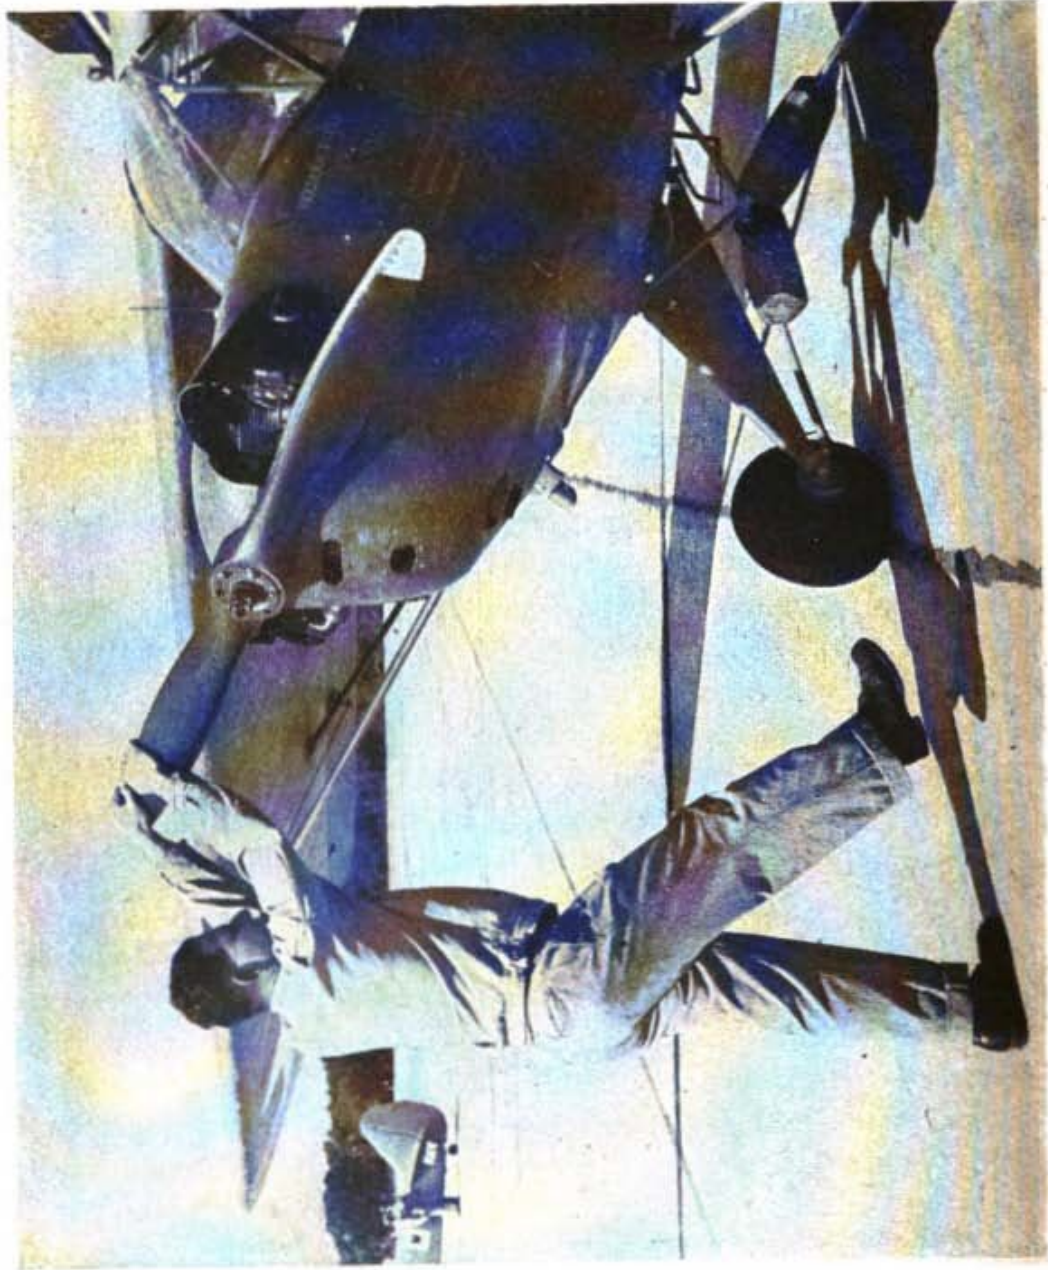

Figure 7. Pulling a propeller through by one man.
(2) Be constantly on guard against walking into rotating propellers or moving aircraft.
(3) Before starting the engine, shout the words "All clear" to notify crew members to stand clear of the propeller. Wait until some designated member of the crew returns the same signal before starting the engine.
(4) Be alert and notice irregularities before and after starting the engine. Discovery of irregularities before the engine is started will save time because other damage may result when the engine is operated.
(5) Remove all tools, parts, and tool kits from the airplane and place them in their respective places before starting the engine. This will prevent these objects from being blown around by the propeller blast.
(6) Always be positive that the ignition switch is in the OFF position before any attempt is made to rotate the propeller by hand.
(7) When taxiing to and from the flying line, travel in a zigzag path because the view from the cockpit is somewhat obstructed.
(8) Figure 5 illustrates the approved procedure to be used when two or more men are pulling the propeller through on a high horsepower-output engine. Figure 6 shows the recommended grip when executing this operation. Notice that the hands are gripped around the wrist. Smaller engines will not necessarily require more than one man. (See fig. 7.) In all cases be sure that the ignition switch is off. If possible, one man should be in the cockpit at the controls when the propeller is pulled through in its normal direction of rotation.